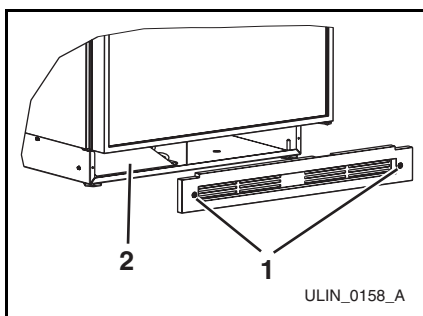

Figure 17
2. Loosen the two screws (**Figure 17, 1**) completely.
4. Clean the condenser coil (**Figure 17, 2**) using a using a soft brush with a “combing” action or vacuum cleaner. Do not touch the condenser coil.